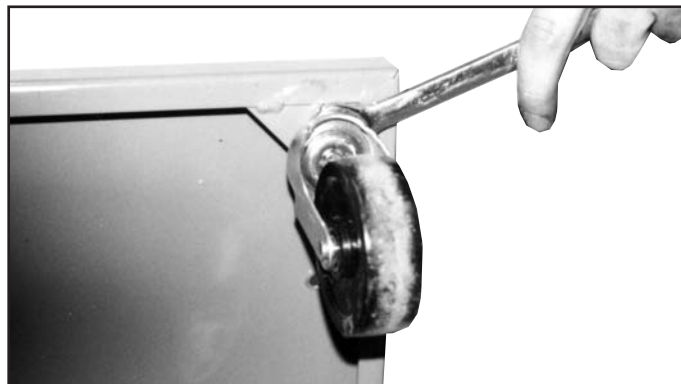

FIGURE 1
1. Install the four casters to the under side as illustrated in Fig.1. Do not remove the lock washers and nuts from caster roller shafts; these act as spacers. Insert roller shaft into threaded hole on the underside of the base, turn until it is snug, then tighten nut with wrench.